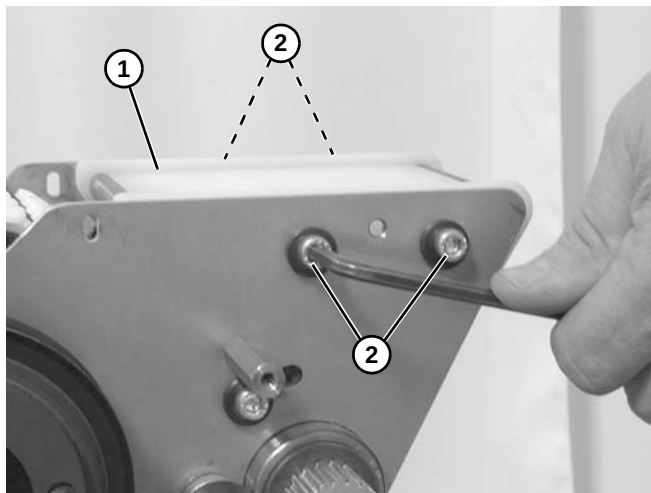

Figure 118
4. Install wear bar assembly (**Figure 118, item 1**) with four socket head screws (**Figure 118, item 2**).